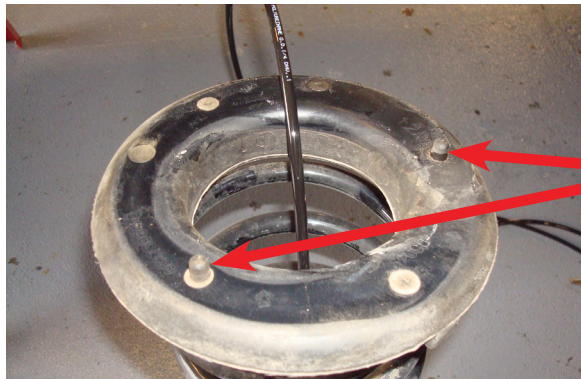

fig. 7
*There are small tabs on the rubber upper spring seat mount that go into holes in the upper spring seat (Fig. 7).*
3. Insert the hose through the hole in the upper spring seat mount and reinstall the coil/air spring assembly, making sure the mark (previously made in step one of getting started) on the upper and lower portion of the coil spring aligns with the mark on the upper and lower spring seats (Fig. 8). Slightly raise the axle up enough to seat the coil spring into the upper and lower mounts and, as stated above, make sure the small tabs go into the upper spring seat (Fig. 7). With the upper and lower spring seated, push the protector up inside the upper rubber spring seat as far as possible. Repeat assembly for the other side.